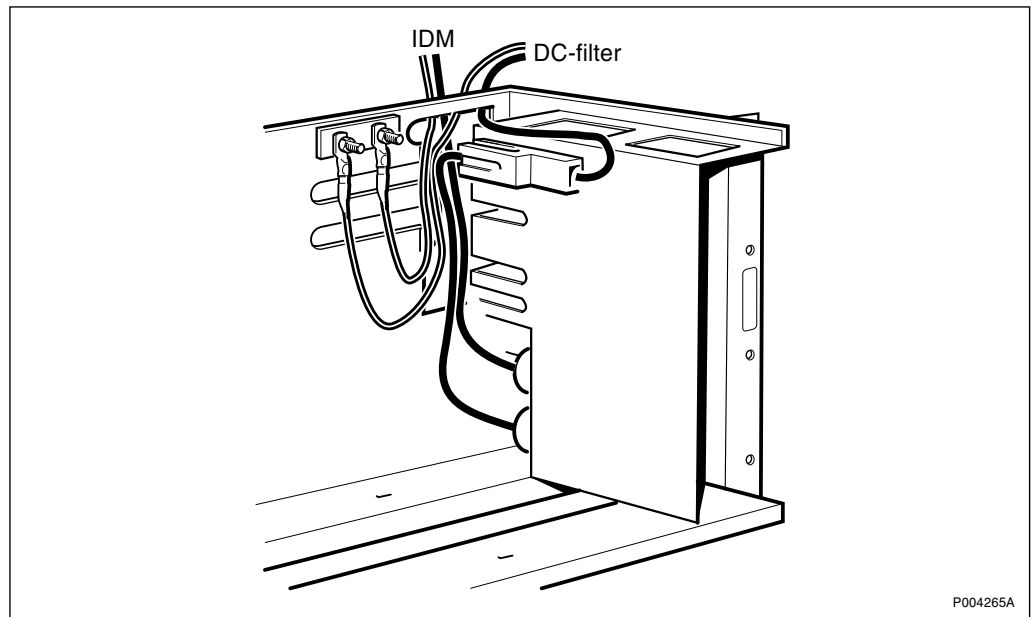
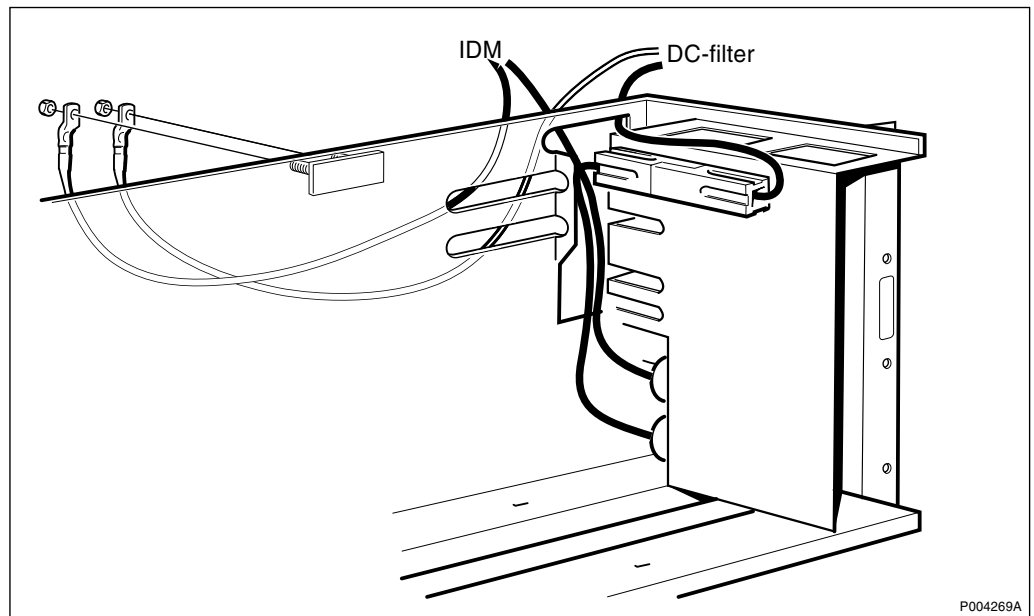

Figure 156 Connections in old battery box design
Figure 157 Connections in new battery box design
6. Pull out the battery boxes beginning with the lower box. Disconnect the DC filter cables from the battery box. Refer to Figure 156 on page 289 or Figure 157 on page 289.